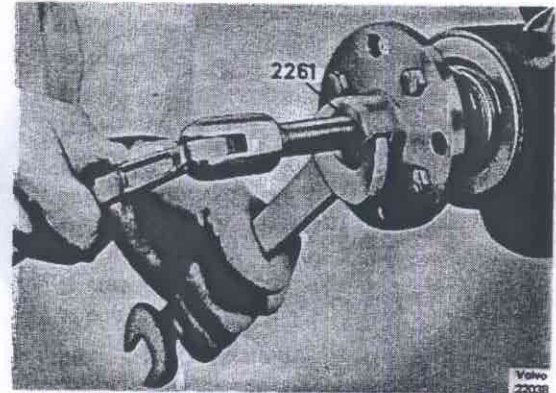

Fig. 43-30. Removing flange
3. Fit not puller 2261, see Fig. 43-30, and pull off the flange.